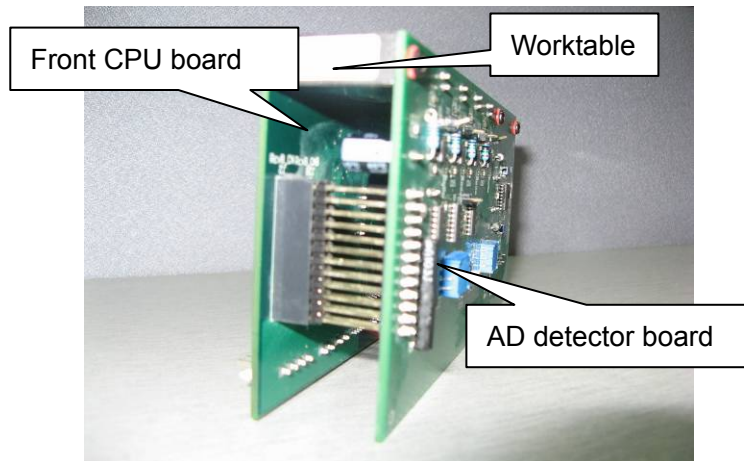

Figure 4-15
3. Remove all wires on the front CPU board, and then remove the whole worktable as shown in Figure 4-15.